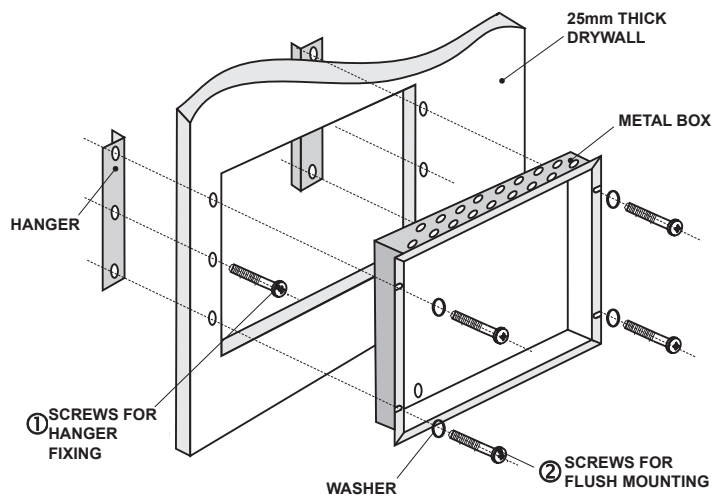

Figure 7. Action sequence for flush mounting.
- Analogue-addressable fire panel MAGPRO96 is available for flush mounting. The accessory set contains two special hangers (see Figure 7) for flush wall mounting of the fire alarm panel on 25 mm thick drywall.
- Fix the hinges on the back side of the gypsum plaster wall with the screws M4x30 cross slot DIN965 from the supplied kit, as shown on Figure 7, Position 1.
- Place the metal box in the mounting hole and fix as use the washers M4 DIN522 and the screws M4x40 cross slot DIN7985 - Figure 7, Position 2.